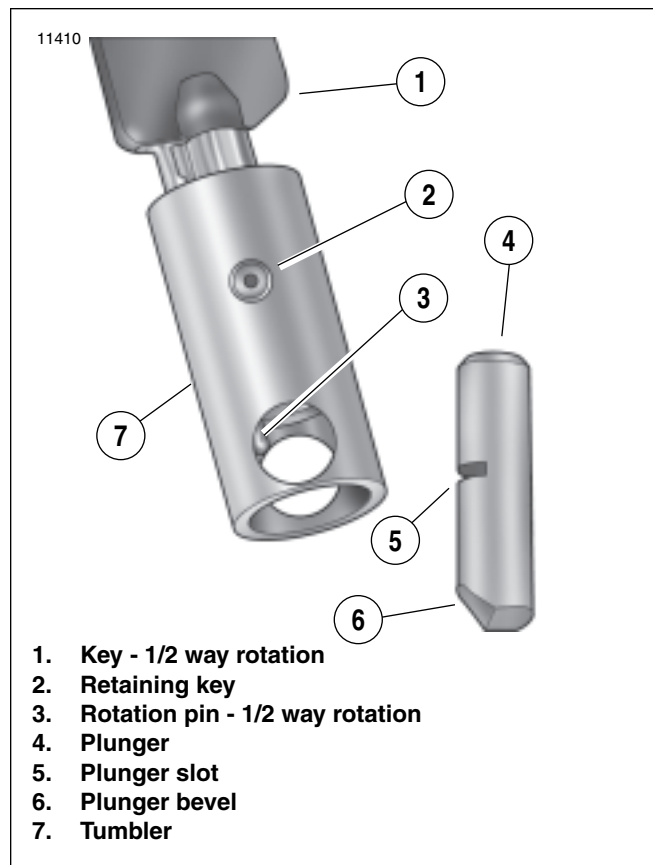

Figure 2-154. Fork Lock Components
2. See Figure 2-154. Slide tumbler (7) into fork lock boss (8) with rotation pin (3) and retaining key (2) at the top of the fork lock boss (8).
2. See Figure 2-154. Insert ignition key (1) and turn 1/2 way and rotate plunger (4) counterclockwise approximately 1/4 turn.
2. See Figure 2-154. Slide tumbler (7) into fork lock boss with rotation pin (3) and retaining key (2) at the top of the fork lock boss.